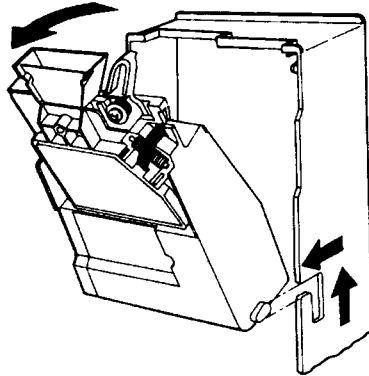

Figure 16: Removing the Acceptor from the Housing
- Grasp the Coin Cup. Slide the Acceptor up and forward until the Acceptor tabs clear the Housing mounting slots (Figure 16).